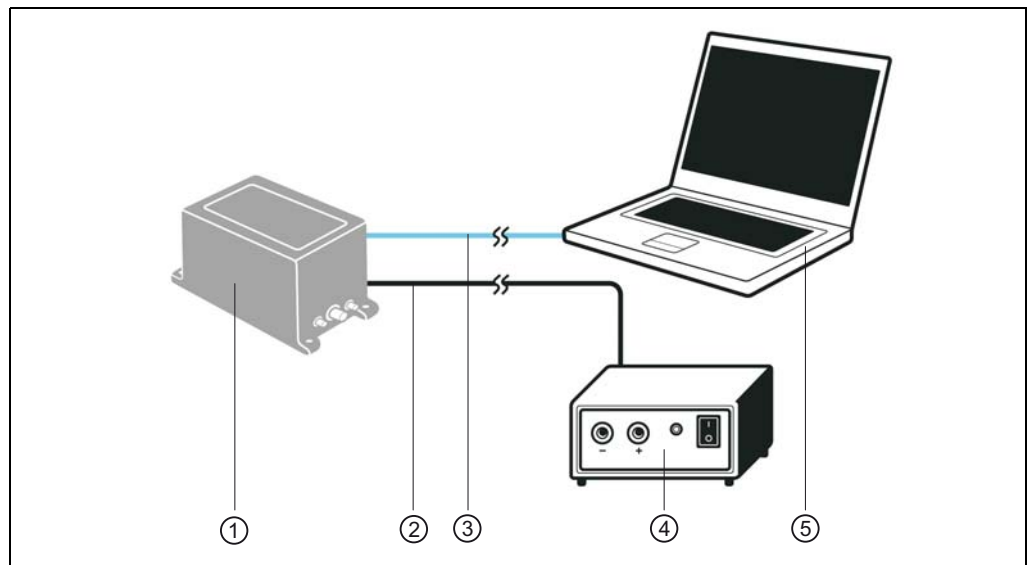

Fig. 5-3: Connection of the voltage supply and wiring of the Ethernet interface
- 1. Connect the supply cable, e. g. Part no. 2049823 (2 m (6.56 ft)), to the LD-MRS, see Abb. 5-3, Seite 65.